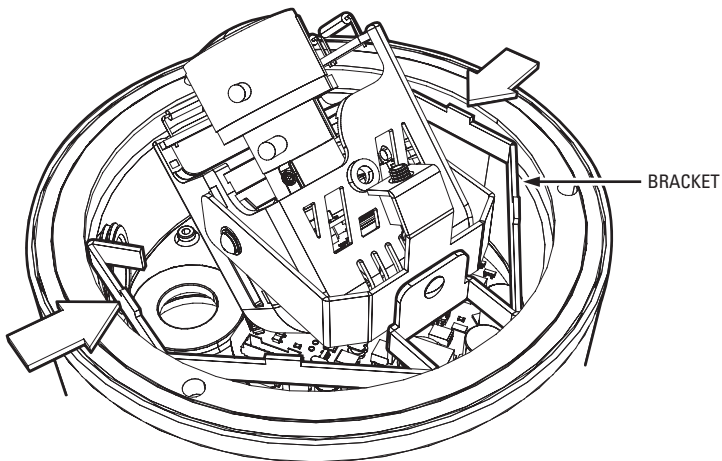

Figure 6. Camera Module Bracket
1. Gently squeeze the bracket and pull the module out of the back box (refer to Figure 6).
3. Gently squeeze the bracket, place it against the groove inside back box, and gently release (refer to Figure 6 on page 14).